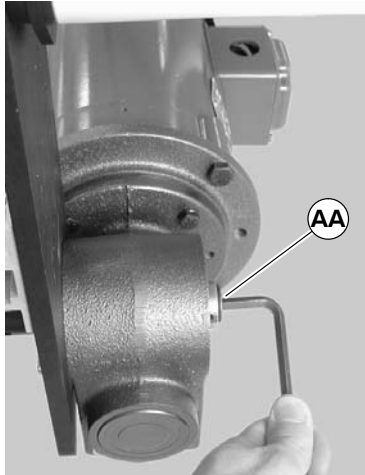

Figure 15
2. Loosen M10 shaft locking screw (AA of Figure 15).